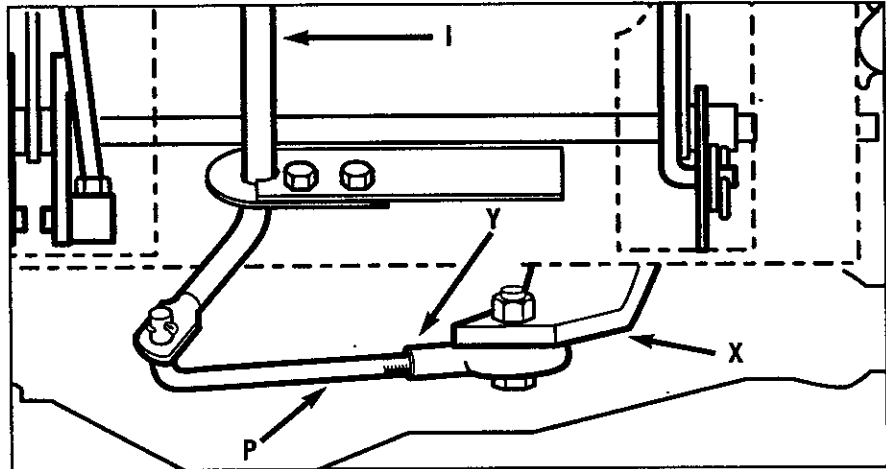

Figure 5-15: Transmission neutral (N) adjustment.
4. Remove cotter pin securing shift link (P, Figure 5-15) to shift rod (I).
5. Move shift arm (X) back and forth as necessary into each detent until transmission is in neutral. NOTE: Moving shift arm (X) clockwise all the way to the left, and then one notch back counterclockwise, should put transmission